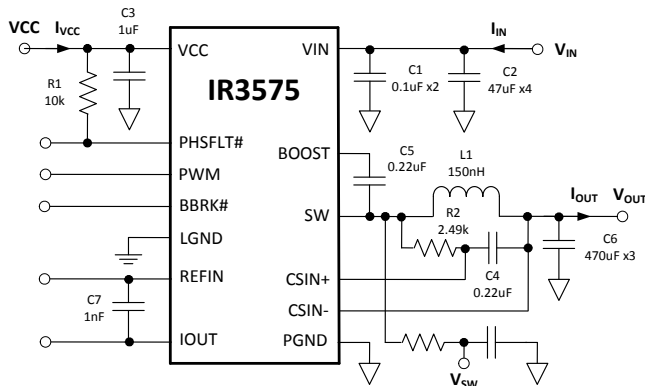

Figure 32: IR3575 Power Loss Measurement
Circuit of Figure 32,  $V_{IN}=12V$ ,  $V_{OUT}=1.2V$ ,  $f_{SW} = 400kHz$ ,  $L=150nH$  (0.29mΩ),  $V_{CC}=7V$ ,  $T_{AMBIENT} = 25^{\circ}C$ , no heat sink, no air flow, 8-layer PCB board of 3.7" (L) x 2.6" (W), no PWM controller loss, no inductor loss, unless specified otherwise.
Circuit of Figure 32,  $V_{IN}=12V$ ,  $V_{OUT}=1.2V$ ,  $f_{SW} = 400kHz$ ,  $L=150nH$  (0.29mΩ),  $VCC=7V$ ,  $T_{AMBIENT} = 25^{\circ}C$ , no heat sink, no air flow, 8-layer PCB board of 3.7" (L) x 2.6" (W), no PWM controller loss, no inductor loss, unless specified otherwise.